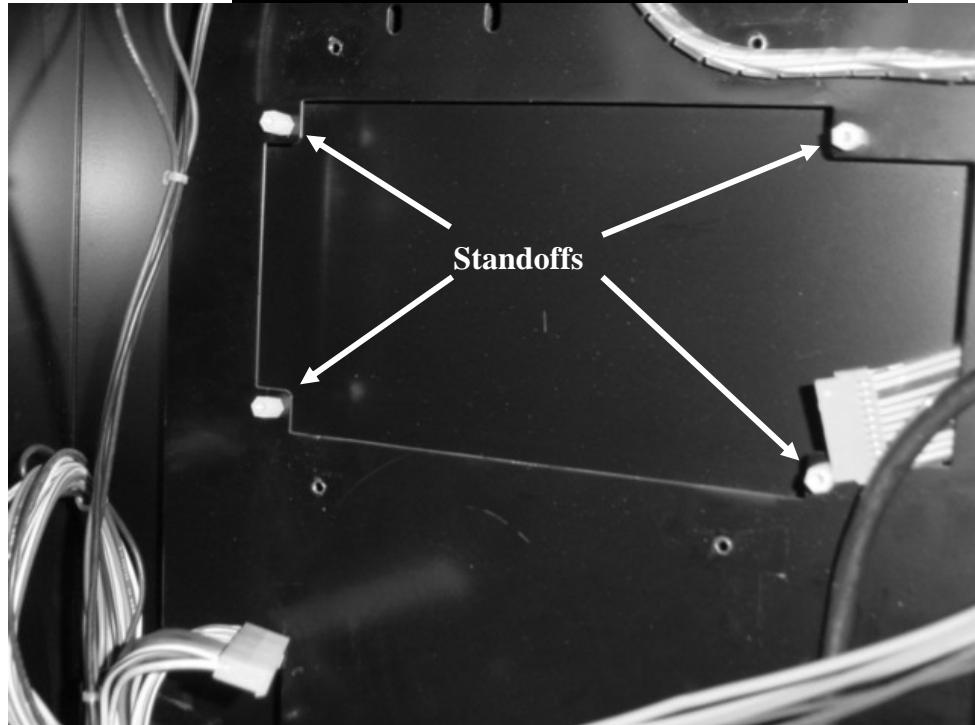

Figure 4
4. Screw the 4 - $\frac{3}{8}$ " standoffs (short standoff's) into the holes where the controller screws were removed as shown in Figure 4. Place a nut on the back of each standoff and be sure that the standoff is firmly seated to the nut. **Hand tight only to prevent damaging the threads.**